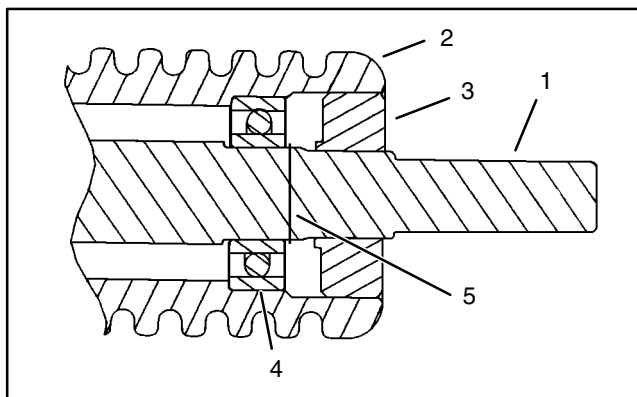

Figure 26
1. Pressing against the outer race of the bearing only, drive one bearing all the way into either end of the roller body (Fig. 26).
4. Slide the remaining bearing onto the roller shaft. Pressing against the outer race of the bearing only, drive the remaining bearing all the way into the end of the roller body (Fig. 26).